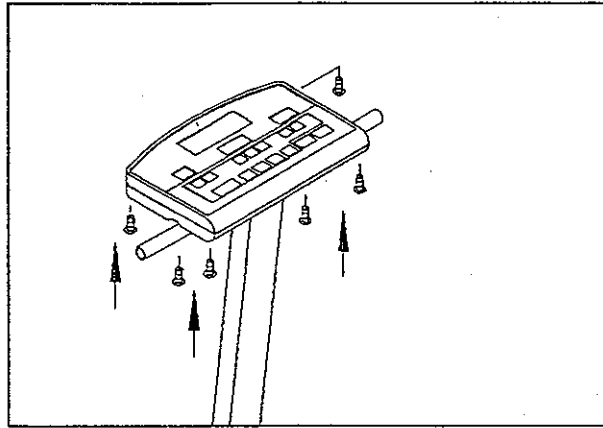

Fig. 11
5. Replace the electronics package, then tighten securely (see Fig. 11).